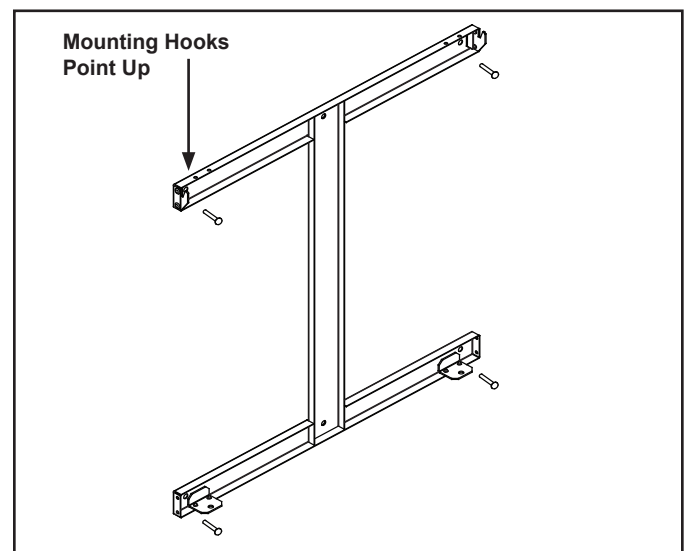
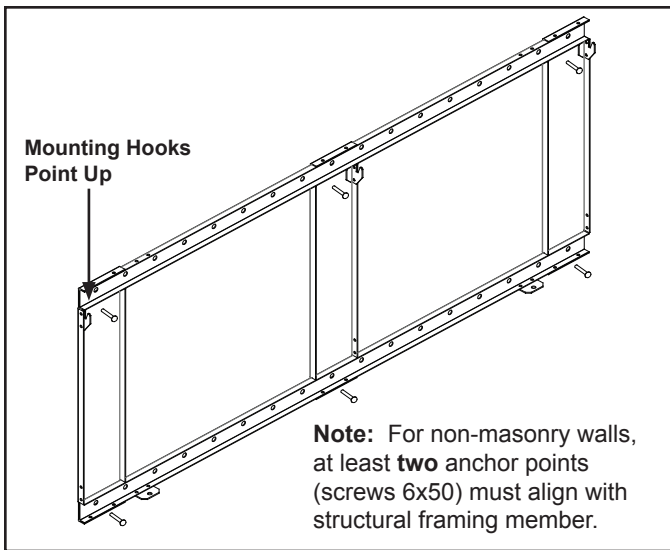
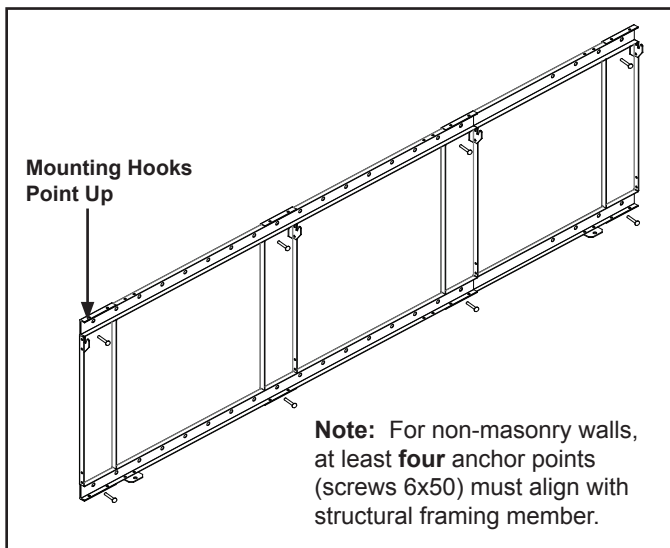
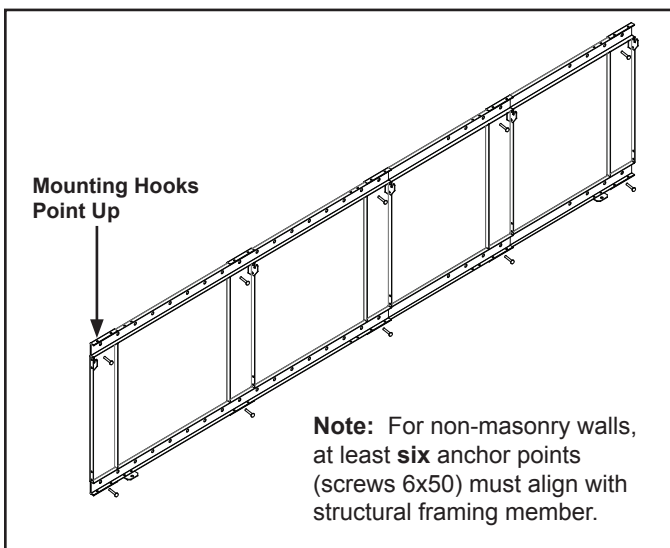

Figure 25 (SF-WM36) Bracket Attachment
Figure 26 (SF-WM58) Bracket Attachment
Figure 27 (SF-WM70) Bracket Attachment
Figure 28 (SF-WM94) Bracket Attachment
- With mounting hooks pointed up, attach the bracket to the masonry anchors with 6 x 50 screws. See Figure 25 (SF-WM36), Figure 26 (SF-WM58), Figure 27 (SF-WM70) or Figure 28 (SF-WM94).